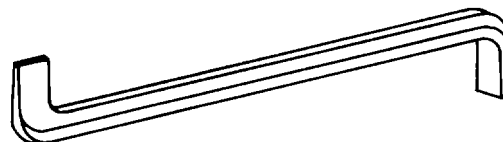

Figure 4-15. Offset Screwdriver
(3) *Offset screwdrivers.* The offset screwdriver shown in figure 4-15 is composed of a shank with a blade on each end. The blades are bent at right angles to the shank. One is parallel to the shank, the other is set at 90 degrees. This screwdriver is especially useful in performing close work. Some offset screwdrivers are